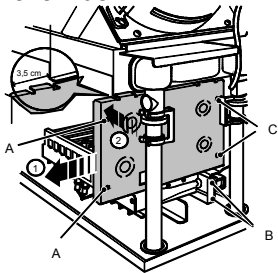
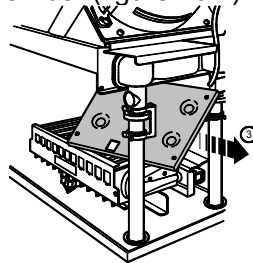

Figure 16.1
Figure 16.2
- Loosen the screws A on figure 16.1 and move to the left the side panel of the combustion chamber.
- Loosen the screws B and remove the air deflector (figure 16.1)
moving it to the left for about 1.5 in, rotating it inside the combustion chamber (figure 16.1 follow the arrows) and then pulling it outside the combustion chamber (figure 16.2)